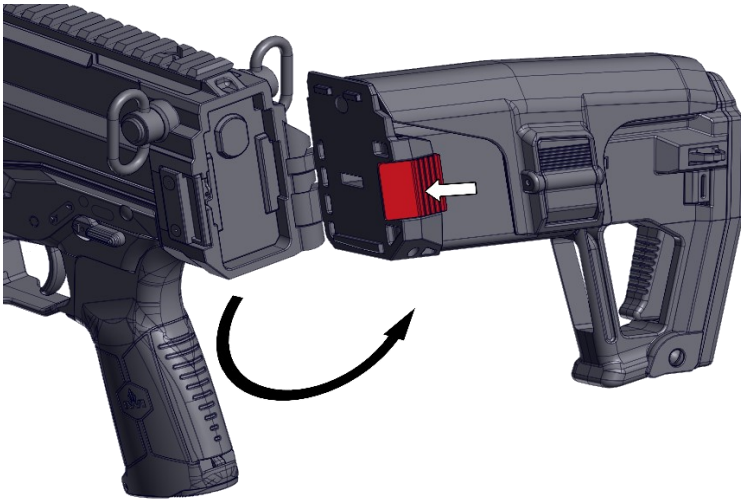
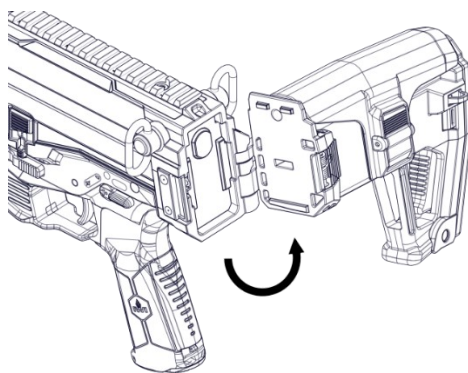

Figure 8-4 – Folding/Unfolding the Buttstock
Figure 10-2 - Folding the Buttstock
2. Rotate the Collapsible Folding Buttstock to the right side of the firearm all the way to fold it (Figure 8-4). For more information see Figure 10-2 on page 27.
4. Fold the Buttstock to the right side (Figure 10-2).